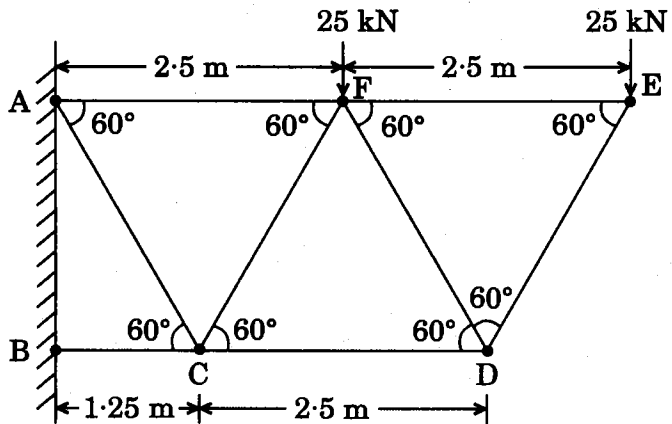

Figure 2
- (b) Find out the forces in members EF, DF and CD of the truss shown in Figure 2. (Use method of section) 10